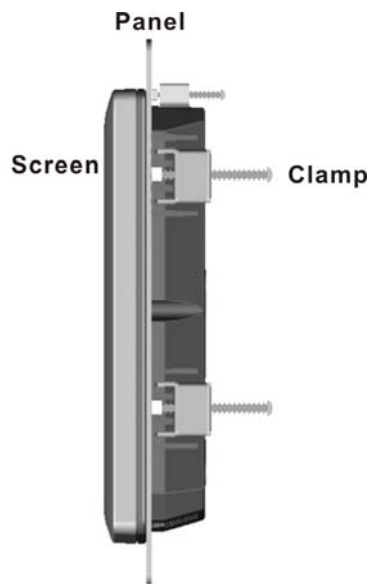

Figure 4-18: Tighten the Panel Mounting Clamp Screws
Step 14: Tighten the screws that pass through the panel mounting clamps until the plastic caps at the front of all the screws are firmly secured to the panel (Figure 4-18).